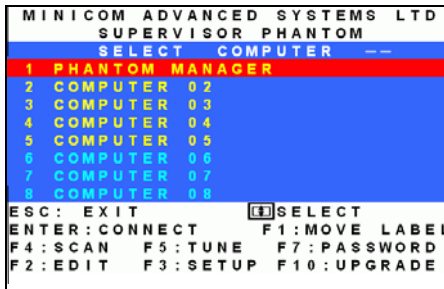

Figure 1 The Phantom OSD
1. At the keyboard connected to the MX IP press **Shift Shift**. The OSD appears, see Figure 1.